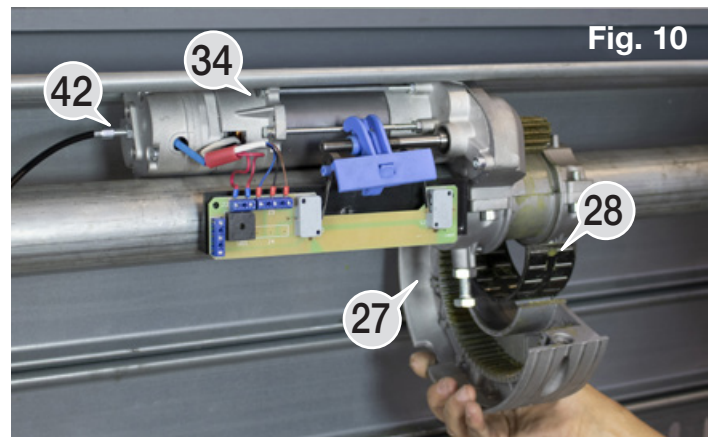

Fig. 10
- Tighten the release cable adjustment nut "42" (fig. 10) on the motor "34".